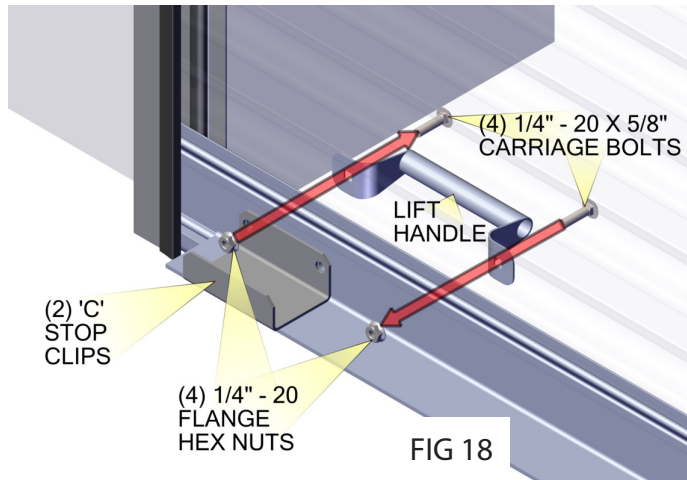

FIG 18
- For doors with an aluminum bottom bar, a 'C' stop-clip will need to be installed. Only one bolt is required to secure the stop-clip to the bottom bar when attaching a lift handle on that side. Repeat assembly procedure for both sides. See FIG 18.